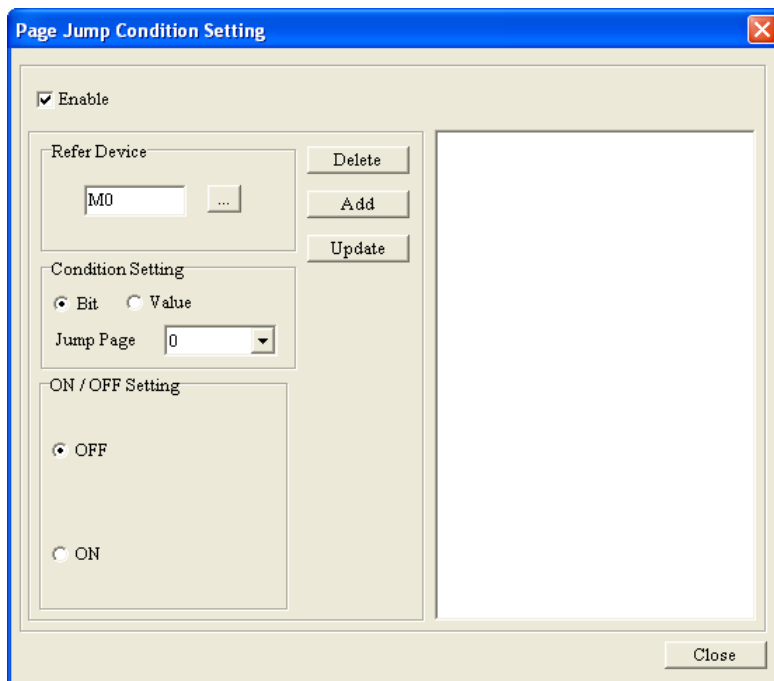

Figure 5-1 Page Jump Condition Setting window
**Page Jump Condition Setting** is used to set the conditions of jumping to particular pages. If the condition of jumping to a page is met, the page will be displayed on the screen of the TP series text panel used. After users click **Page Jump Condition Setting** on the **Local Page Setting** menu, or right-click a page and then click **Page Jump Condition Setting** on the context menu which appears, the **Page Jump Condition Setting** window will appear, as shown in Figure 5-1. After the users select the **Enable** checkbox, they can set conditions. After the users click **...** in the **Refer Device** section, the **Refer Device** window will be opened. Please refer to section 4.1.1 for more information.